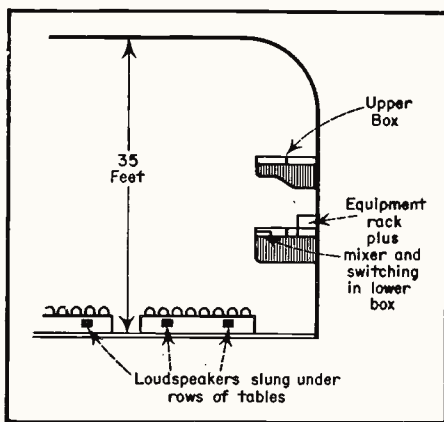

Fig. 1—General layout
1. An independent operator temporarily installed his rack of amplifying and switching equipment in an elevated forward box at the side of the room (see Fig. 1) commanding a view of the entire conference. Not one piece of hotel equipment was used. This despite the permanent hotel installation within the ballroom. More on that later.